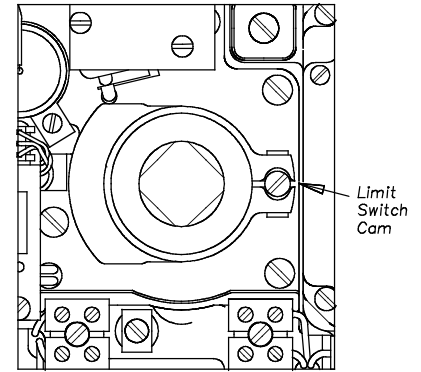

FIGURE 6b. DIGITAL EL SWITCH STRIKER
**4.2.2** Metal coupling cams are adjusted by releasing the screw shown in figure 6b, moving to desired position and re tightening. Set the lever cam first. Ensure the clamp section of the cam does not strike a switch at any part in the actuator's travel.